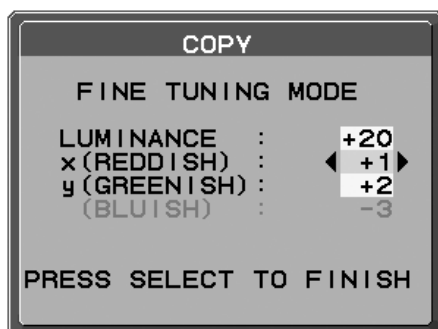

Figure C.6
10. At the FINE TUNING MODE message (**Figure C.6**), press SELECT if the copy result is satisfactory. If the copy result is unsatisfactory, manually fine tune the white point using the "LEFT" and "RIGHT" keys, and press SELECT.